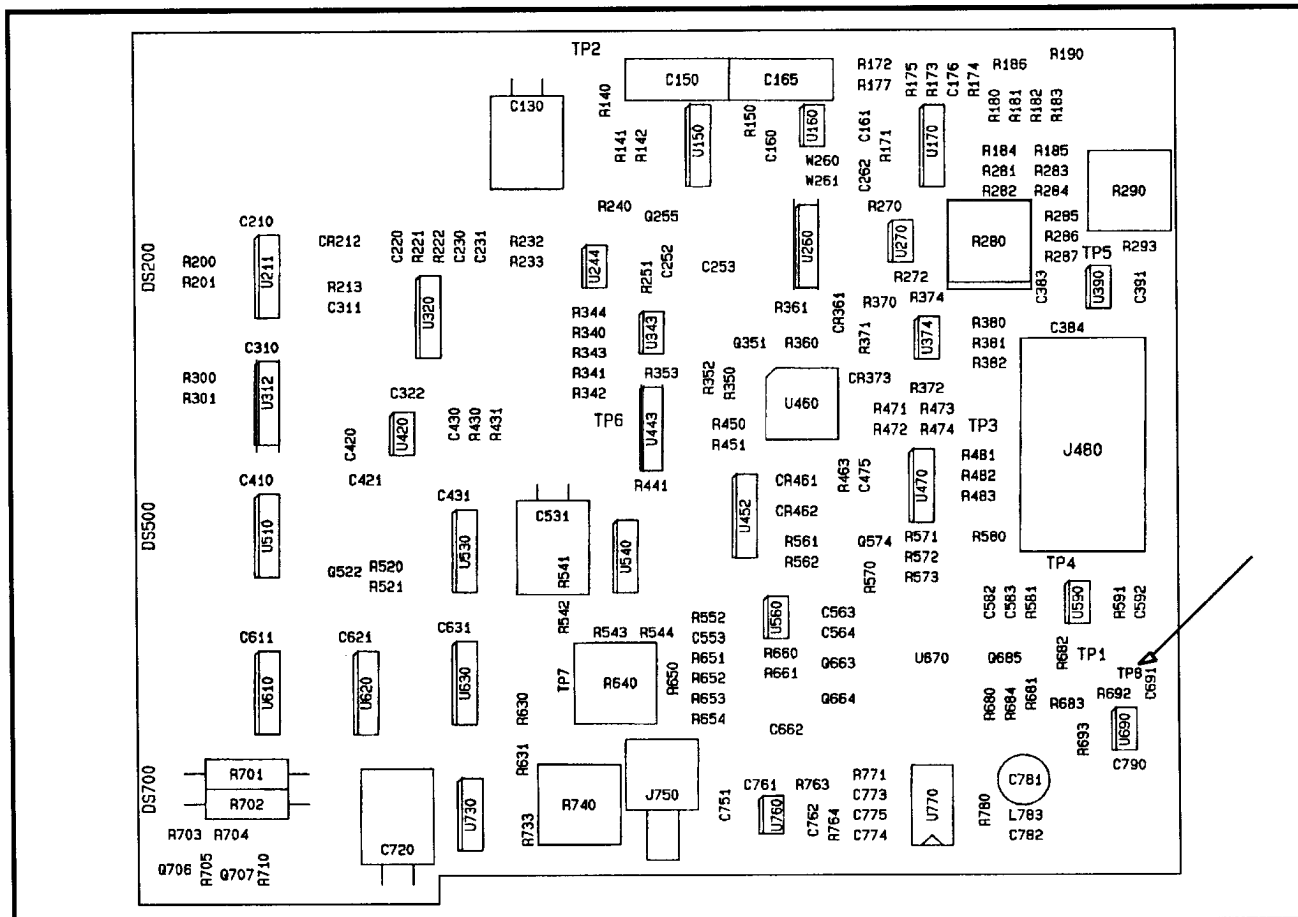
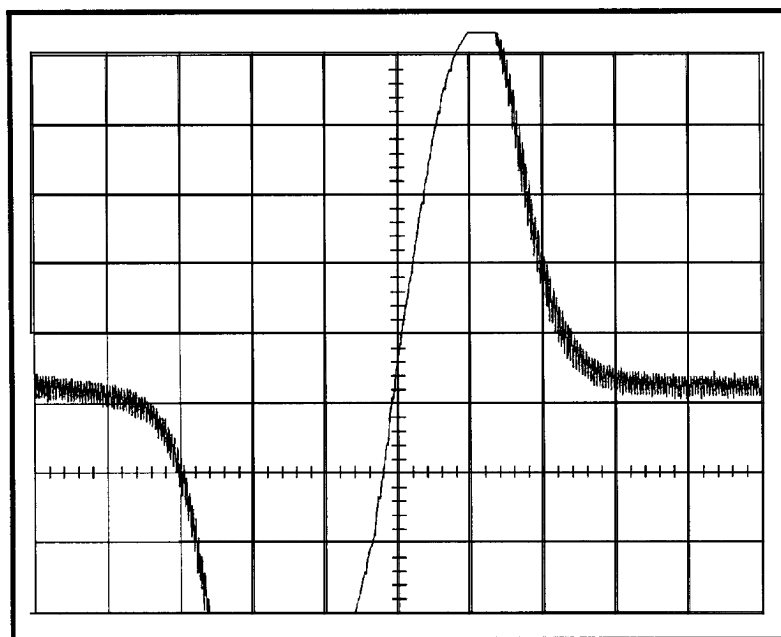

Figure 4-20. Location of TP8 on the Sweep board.
Figure 4-21. Typical FM adjustment waveform.
(1) Connect the detector test cable from J103 on the rear of the instrument to TP8 on the Sweep board. See Figure 4-20 for the location of TP8 (feed-through hole).
(3) Enable the Calibrator by pressing INPUT 9.
(4) Center the signal by pressing CTR MEAS/TRKG.
(5) Enable external video by pressing DSPL 7. This key stroke sequence also puts the instrument into zero span.
(6) Press ZERO SPAN to disable zero span.
(7) Disconnect the 110 MHz IF cable from J750 on the Sweep board.
(8) Adjust the R740 (FM Video Offset) on the Sweep board (Figure 4-20) to bring the horizontal line to center screen.
(9) Reconnect the 110 MHz IF cable to J750 on the Sweep board.
(10) Adjust C781 on the Sweep board (Figure 4-20) to bring the left edge of the waveform to the center vertical graticule line ( $\pm 0.5$  minor division). See Figure 4-21.
(11) Remove the detector test cable.
(12) Connect a FM video signal to the RF IN.
(13) Tune the spectrum analyzer to an FM visual carrier.
(14) Set FM (Satellite) video signal parameters by pressing DEMOD/TG 9 and selecting SATELLITE VIDEO DETECT MODE, NEGATIVE SYNC POLARITY, and POSITIVE VIDEO POLARITY. Press any menu button to exit the menu.
(15) Set the peak carrier level at the top graticule line.
(16) Enable the FM video mode by pressing DEMOD/TG 3, and set the LEVEL control for minimum flicker in the displayed picture.
(17) Adjust R740 on the Sweep board for best contrast in the picture.
(18) Initialize instrument settings by pressing UTIL 0. If user-defined power-up settings exist, the instrument will recall those settings. If no user-defined power-up settings exist, the instrument will recall factory default power-up settings.